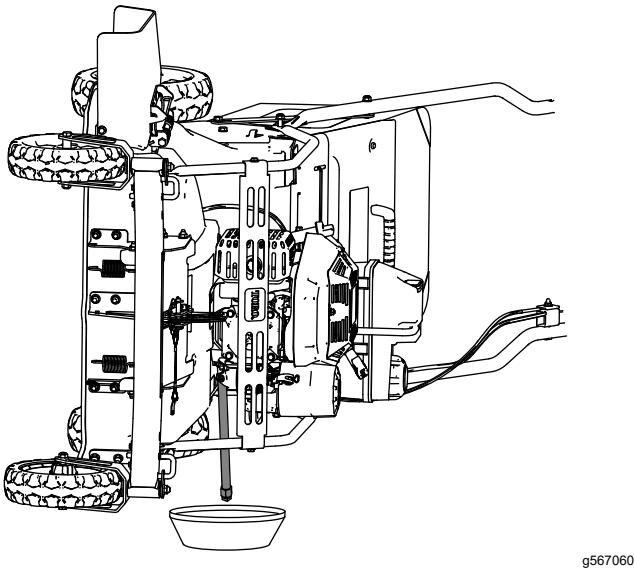

Figure 25
4. Tip the machine onto its side so that the oil drain tube is down to drain the used oil (Figure 25).